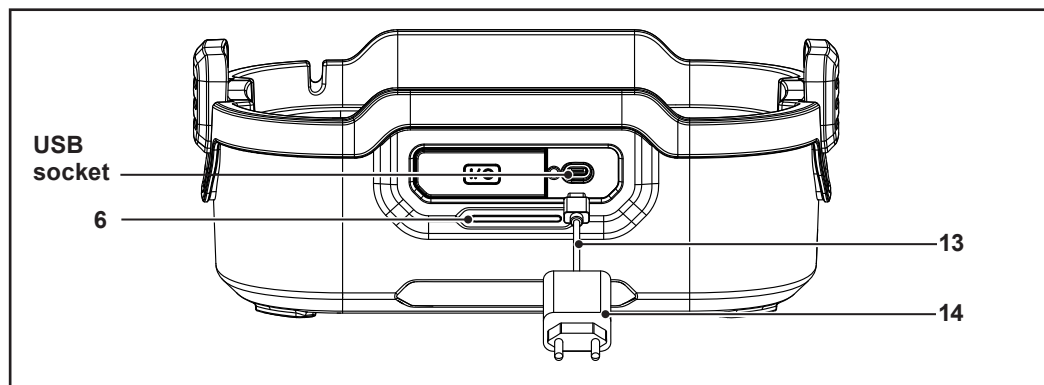

Fig. 1
2. Connect the USB charging cable (13) to the power supply unit (14).
3. Open the cover of the USB socket (5) and connect the USB charging cable (13) to the socket (Fig. 1).
4. Plug the power supply unit (14) into a suitable power socket. The charging cycle begins and the battery indicator (6) flashes green.
5. Once charging is complete, the battery indicator (6) remains solid green. Disconnect the USB charging cable (13) and close the cover of the USB socket (5). The appliance is ready for use.